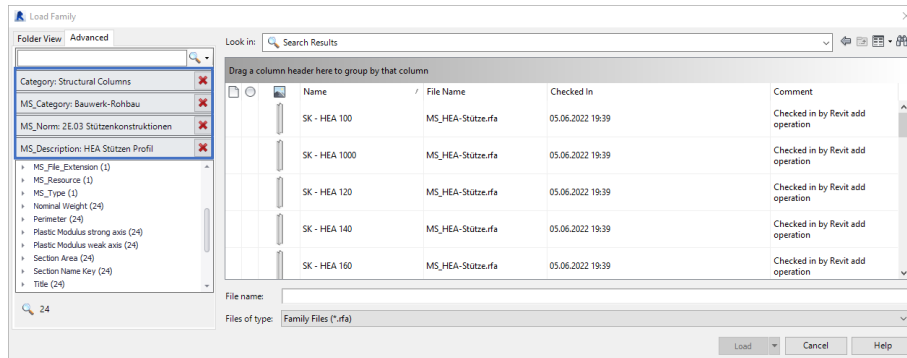

FIGURE 2: VAULT PROFESSIONAL MANAGED REVIT LIBRARY, SEARCHABLE BY ALL FAMILY PROPERTIES
- Host a Revit library (see Figure 2)